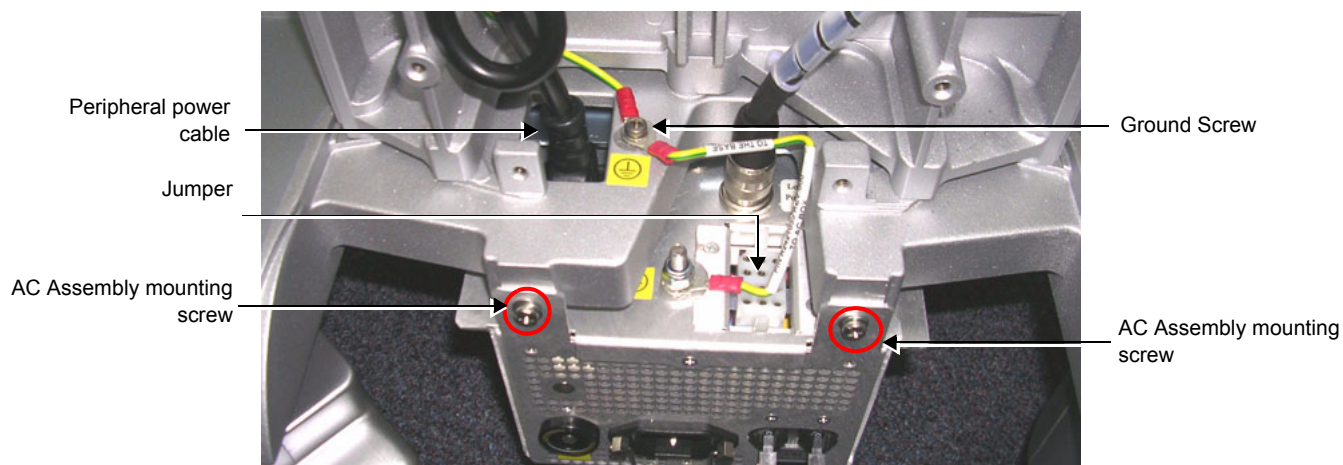

Figure 8-86 AC Distribution Assembly and Cable Sockets
The AC Distribution Assembly is now exposed, as shown in Figure 8-86.
- 6) Unscrew the metal cable fastener from the P1 cable connector (on the *right*) and remove the cable from its socket - see Figure 8-86.
- 7) Disconnect the peripheral power cable from the AC Distribution Assembly - see Figure 8-86.
- 8) Loosen and remove the ground screw fastened to the AC Distribution Assembly - see Figure 8-86.
- 9) Loosen and remove the two AC Assembly mounting screws that secure the AC Distribution Assembly to the mounting bracket on the SafeLock Cart chassis - see Figure 8-86.
- 1) Return the replacement AC Distribution Assembly to its position on the SafeLock Cart chassis and secure it on the mounting bracket using the two screws (previously removed - see Figure 8-86, above).
- 2) Fasten the Ground screw to the AC Distribution Assembly - Figure 8-86, above.
- 3) Reconnect the peripheral power cable to the AC Distribution Assembly - Figure 8-86, above.